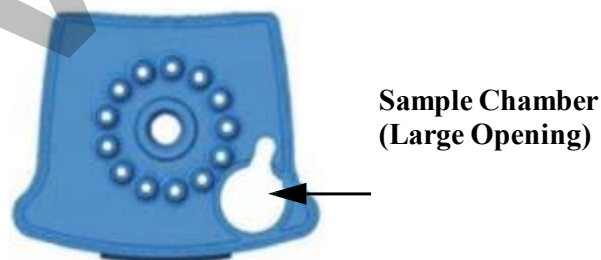

Figure 21. Xpert Xpress SARS-CoV-2 Cartridge (Top View)
14. To transfer the patient specimen to the cartridge, squeeze the top bulb of the transfer pipette **completely** again to empty the contents of the pipette into the large opening (Sample Chamber) of the cartridge shown in Figure 21. Dispose of the used pipette.